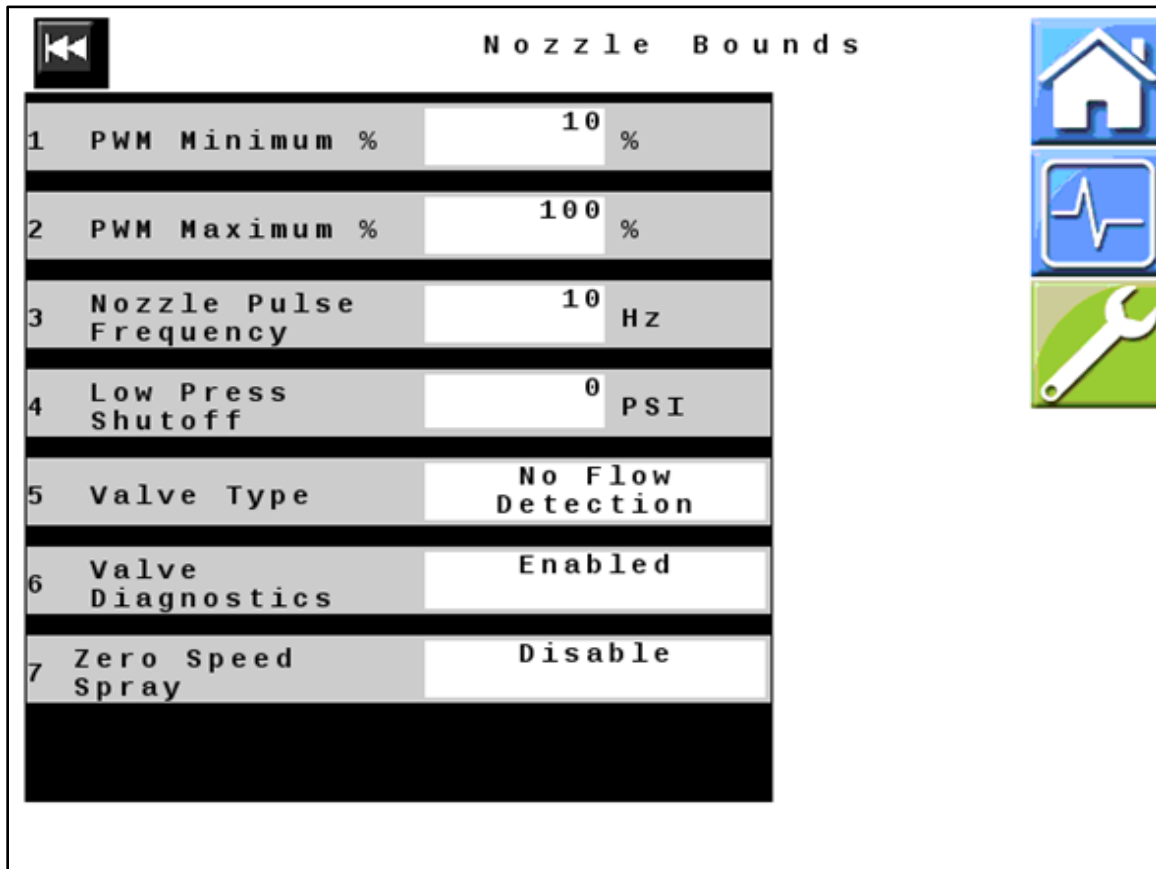

Figure 11 — Nozzle Bounds
20. *Figure 11:* The information in the fields on this screen is machine specific, verify that it is correct for your machine, and change any settings if necessary.